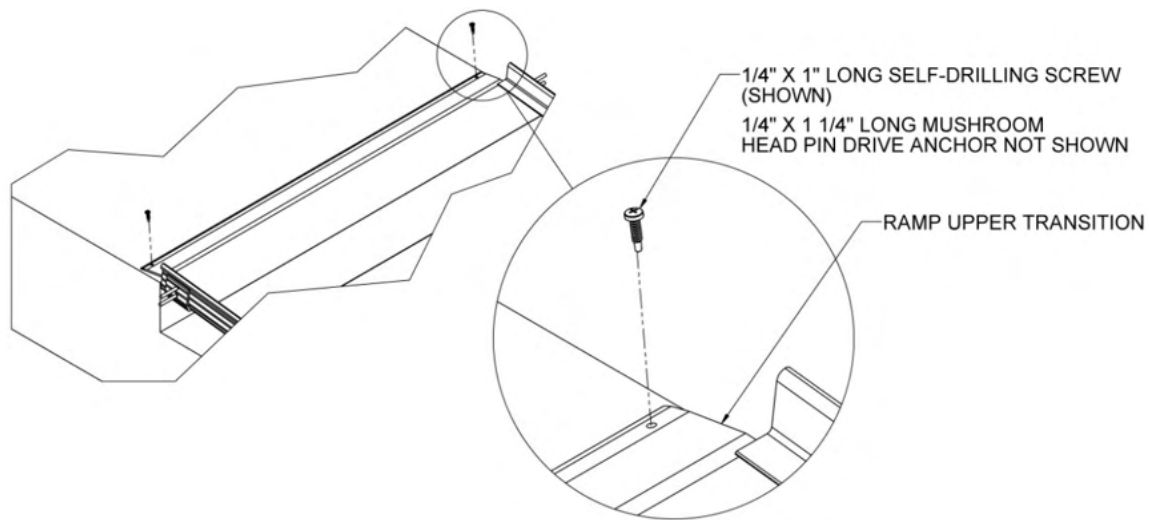

FIG. 3.17
- 3.7.1.1. Secure PRUT (RAMP UPPER TRANSITION) by installing the 1/4" x 1" long self-drilling screw through each hole (FIG. 3.17).